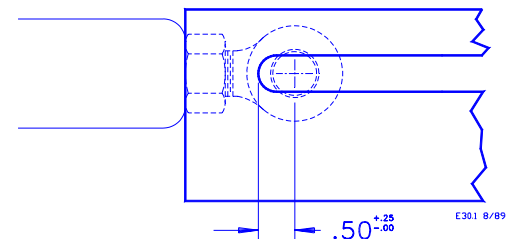

Figure 8. Linear Actuator Adjustment Procedure (side view)
4. EXTEND the Tube until a 9" or 18" (229 or 457 mm) stroke, whichever is applicable, is achieved. See Figure 8.